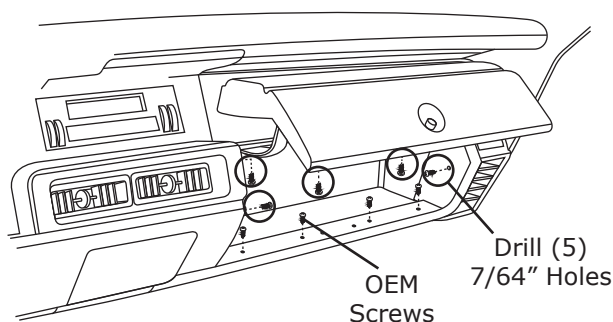

Figure 17a
6. Mark and drill (3) 7/64" holes through glove box into top of glove compartment and (1) 7/64" hole through glove box into each side of glove compartment, for a total of (5) holes (See Figure 17a, below).
7. For 1969 models, secure new glove box in glove box compartment using OEM screws (See Figure 17a, below). For 1970 models, reinstall OEM glove box using OEM screws.